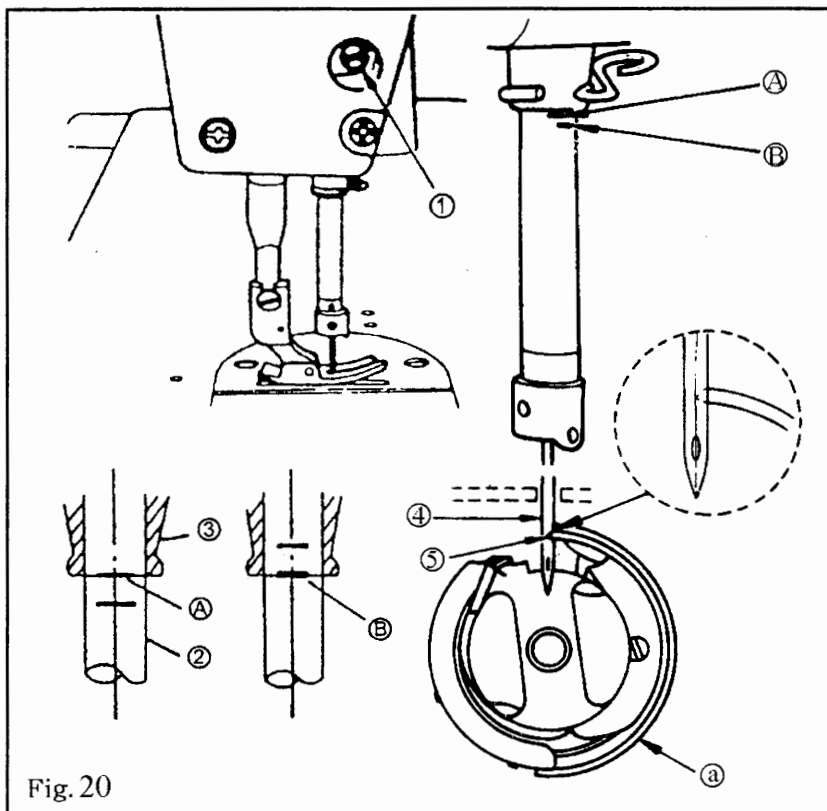

Fig. 20
14. NEEDLE-TO-HOOK RELATIONSHIP (Fig.20)